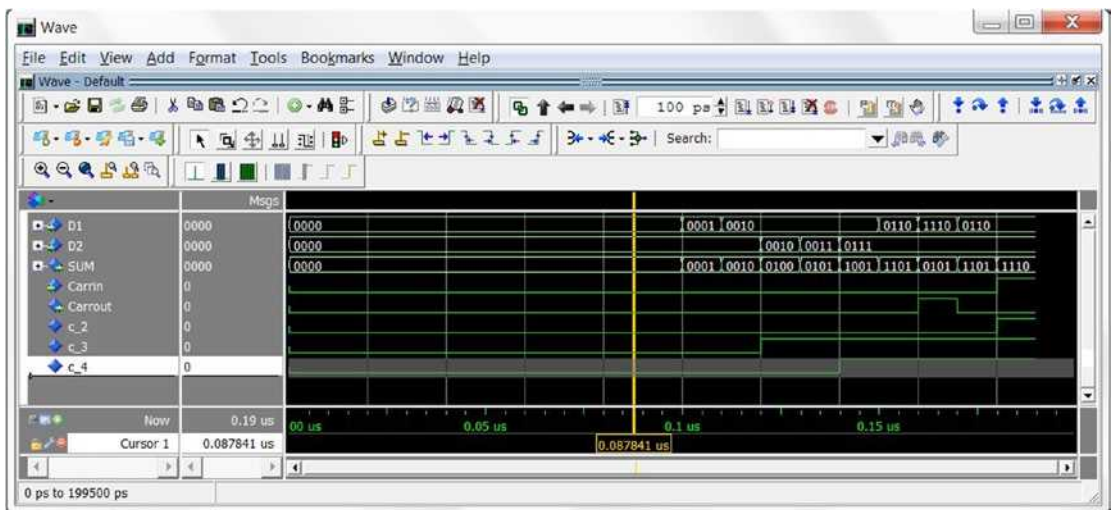
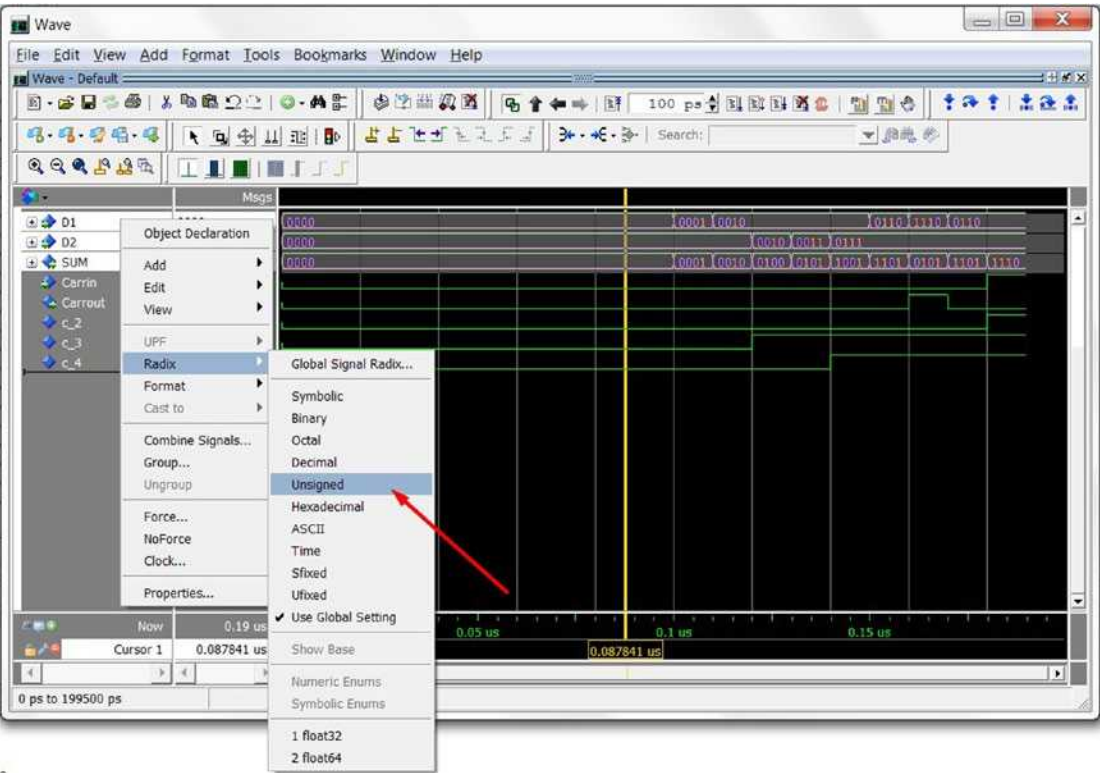

Figure 8-23. 4-bit adder simulation result
Figure 8-24. How to change the data radix in simulation
9. Wave windows will show all the calculation results from the four-bit adder (Figure 8-23). All the input and output are in binary number (Figure 8-24). Select D1, D2, and Sum with Ctrl key and then right-click it to select unsigned (Figure 8-25).